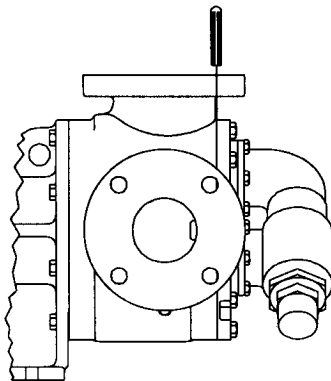

FIGURE 20
6. The head can now be assembled on the pump. Tilt the top of the head away from the pump slightly until the crescent enters the inside diameter of the rotor and rotate the idler until its teeth mesh with the rotor teeth. Line up mark on head and casing, which were previously marked to insure proper reassembly. Be sure idler pin, which is offset in pump head, is positioned toward and equal distance between port connections to allow for proper flow of liquid through pump. Tighten the head capscrews (or nuts onto studs in the Q size). Check the end clearance using a feeler gage as illustrated. See **Figure 20** on page 11. If end clearance is not correct, refer to section on **ADJUSTING HEAD GASKET END CLEARANCE** on page 11.
If the pump is in the pipeline and not accessible through ports, remove the head and remove gaskets. Put the head back on and measure the gap as shown. See **Figure 20**. After determining the gap between head and casing, select a combination of gaskets with approximately 25% more total thickness than the feeler gage plus required end clearance. See **Figure 18 on page 10**. Note: gaskets will compress when head is tightened down. Remove head, install all gaskets and the O-ring, and then install head. Tighten the head capscrews and then check the pump by making sure the pump turns over freely by hand.